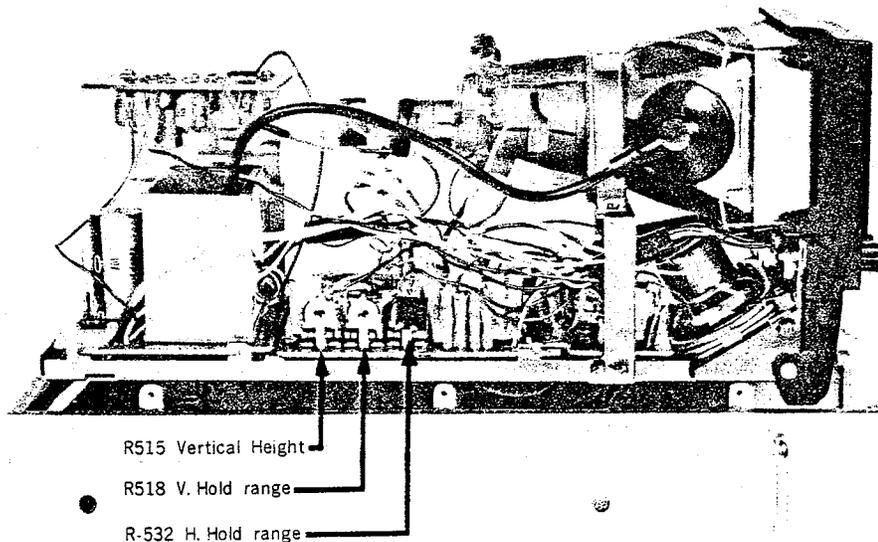

Fig. 2
- Adjust R-518 (5K-VR). Fix at position at which picture is stationary (Ref. Fig. 2).
- Adjust R-532 (5K-VR). Fix at point at which the picture synchronizes into one picture. After adjustment has been made, rotate HOR Knob. Confirm that the horizontal synchronization is stable at all points within the rotatable range of the HOR Knob. (See Fig. 2).